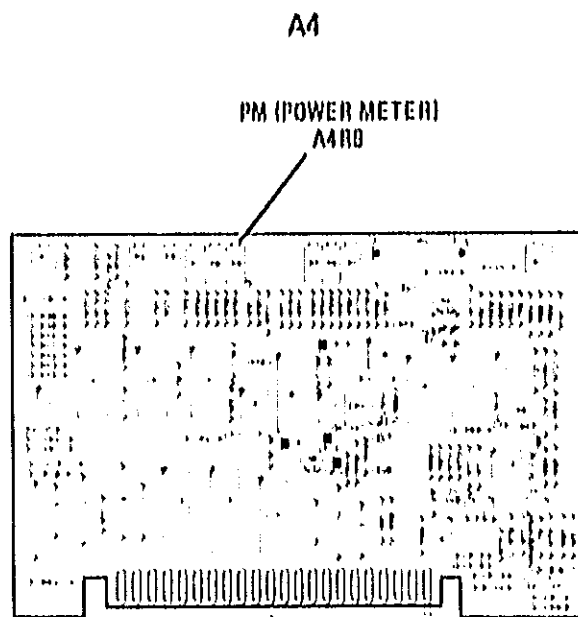

Figure 5-34. Power Meter Adjustment Location
4. Increase the 83590A power level until the 432A Power Meter reaches full scale deflection (83590A RF output equals approximately $+6$ dBm). Adjust A4R9 (PM) until the 436A Power Meter indication is equal to the 83590A POWER display minus the power splitter insertion loss noted in step 1 (approximately 6 dB). Refer to Figure 5-34 for the adjustment location.
5. Alternately set the 83590A POWER to -2 dBm (and adjust the 83590A EXT CAL control) and then set the 83590A POWER to $+6$ dBm (and adjust A4R9 (PM) control) to obtain best compromise (where further adjustment of each is unnecessary).